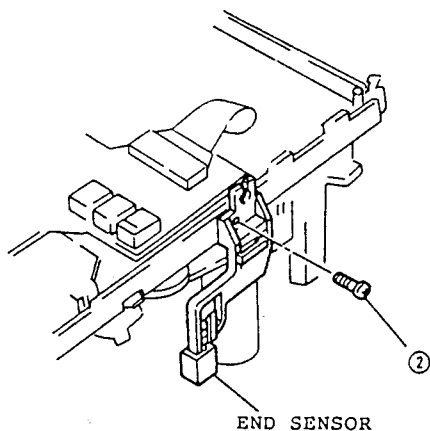

Fig. 2-58
2. Remove one (1) screw holding the end sensor. (See Fig. 2-58)